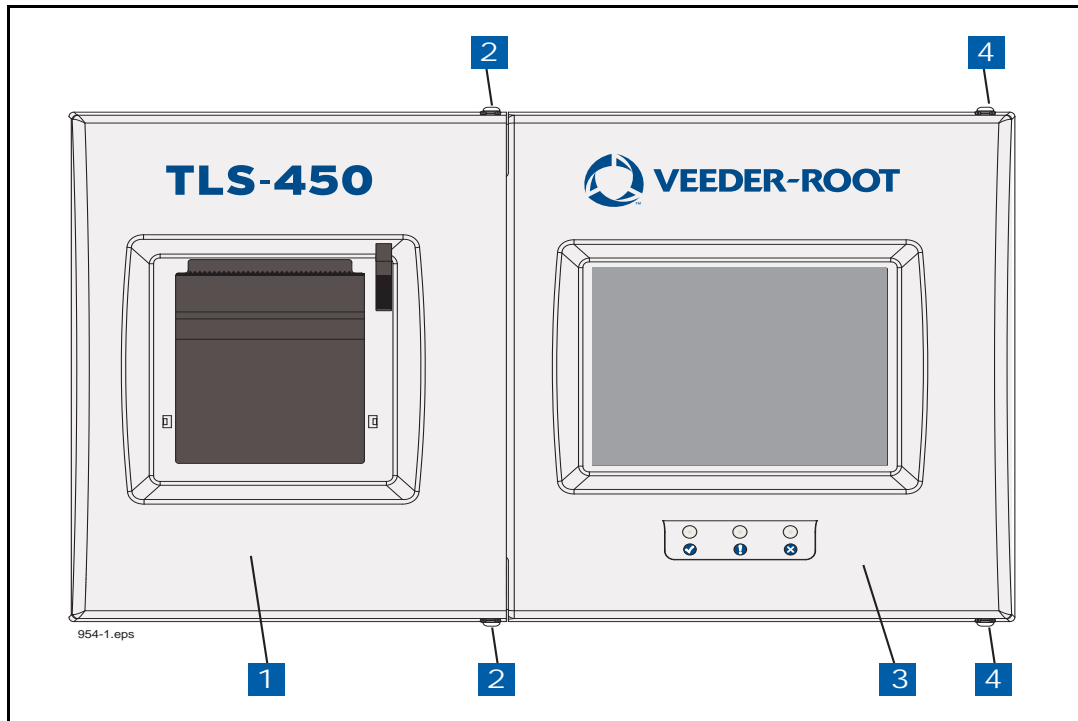

Figure 6. Front doors
2. Using a T-15 Torx driver, remove the two screws in the left door of the console (ref. item 2 in Figure 6).
2. Open both front doors of the console (see Figure 6).
LEGEND FOR NUMBERED BOXES IN Figure 6
2. Open the left (Printer) door of the console (see Figure 6).